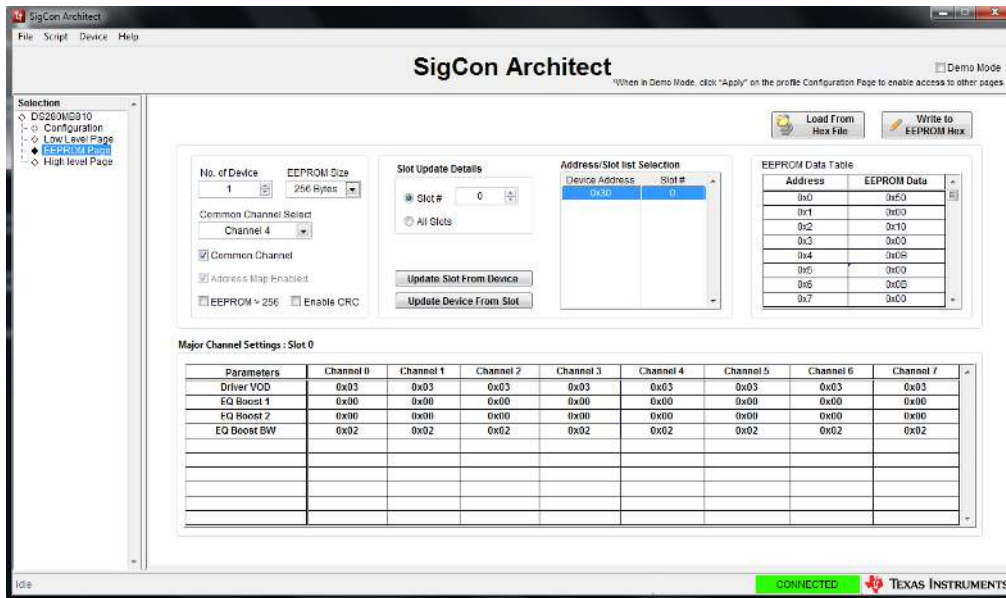

Figure 11. SigCon Architect EEPROM Page.
12. In order to create a Hex file programmable to an EEPROM, navigate to the “EEPROM Page,” as shown in Figure 11. In order to update the settings from the device click “Update Slot from Device.” In order to create the programmable hex file, click “Write to EEPROM Hex.” The evaluation module does not include an EEPROM, but an external EEPROM can be used. SigCon Architect cannot directly program the EEPROM. The EEPROM Hex File can be burned on the EEPROM via I2C communication (i.e. AARDVARK or equivalent interface adapter). The EEPROM control settings are described in greater detail below.